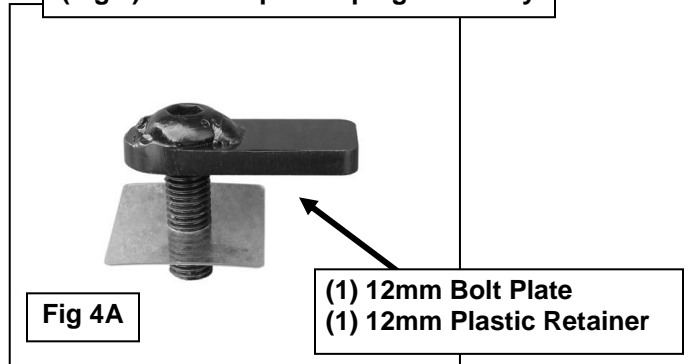
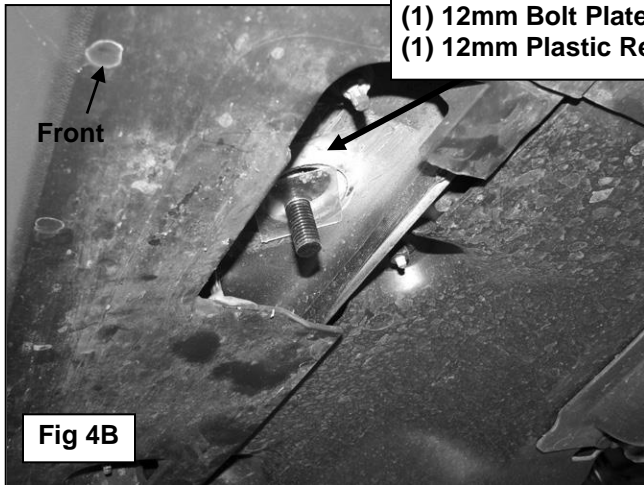

Fig 4A
Fig 4B
- Select (1) 12mm Bolt Plate and (1) 12mm Plastic Retainer, **(Figure 4A)**. Thread the Retainer part way onto the Bolt Plate. Insert the Bolt Plate into the hole in the floor panel, **(Figure 4B)**. Thread the Retainer down until it is tight against the floor panel. **IMPORTANT:** The Plastic